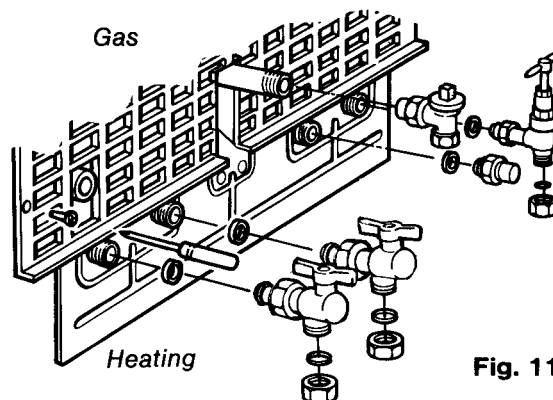

Fig. 11
- 5.3.4 Loosely fit (hand tight) the valves and fittings using the washers supplied. (fig. 11)
- 5.6.1** Figs 11 and 15 show the locations of the fittings.